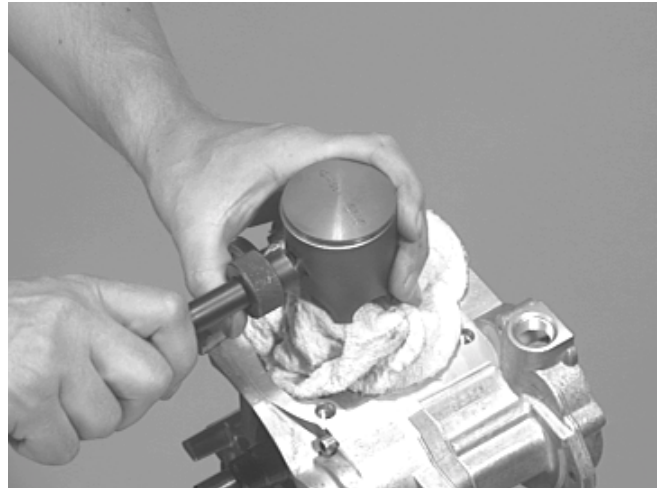

Figure 66
- ⇒ support piston with one hand and push the circlip from the locating sleeve into the piston (see fig. 66)